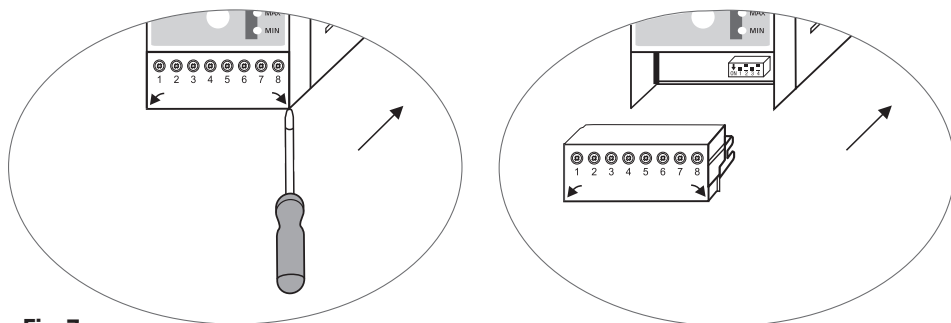

Fig. 7
- Remove the upper and lower terminal strips **Fig. 7**